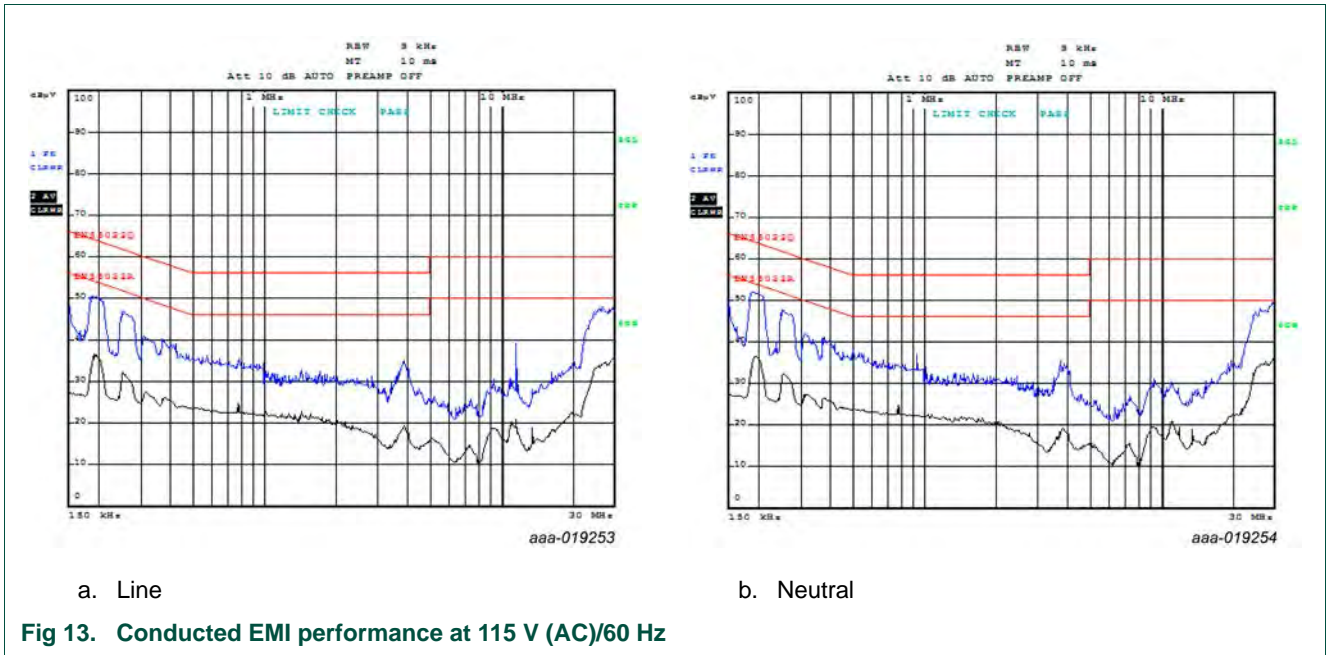
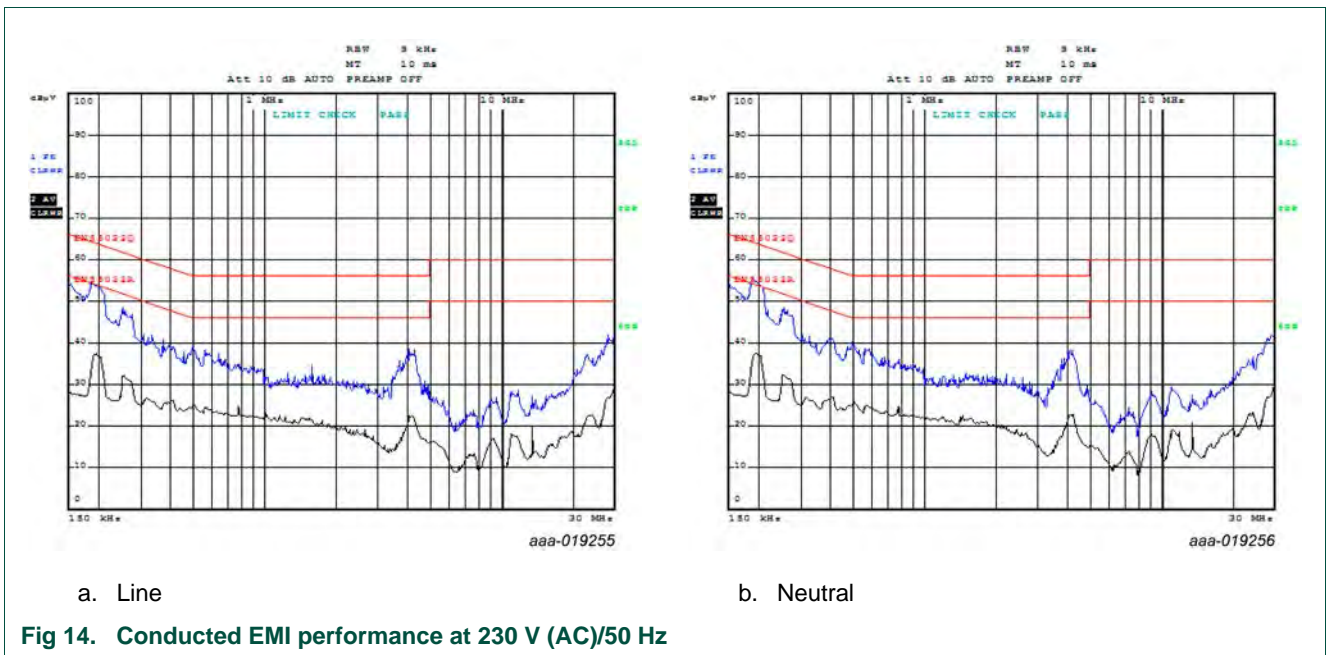

Fig 13. Conducted EMI performance at 115 V (AC)/60 Hz
Fig 14. Conducted EMI performance at 230 V (AC)/50 Hz
- Supply voltage 115 V (AC) and 230 V (AC)
**Remark:** In Figure 13 and Figure 14, the blue line is the peak measurement result and the black line is the average measurement result.